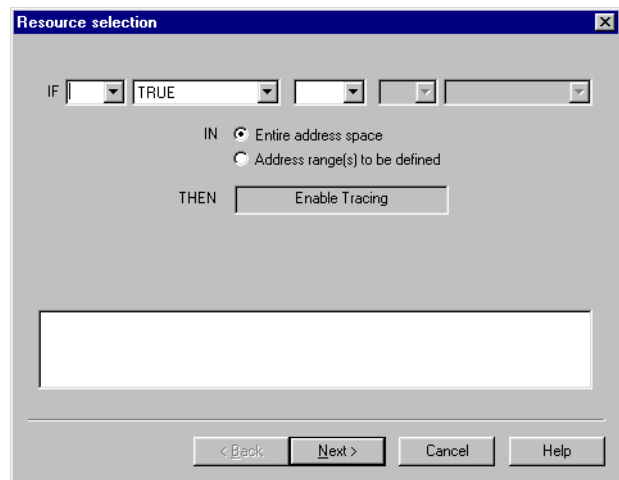

Figure 8-21 Resource selection for Enable Tracing
2. Double-click **Enable Tracing** from the Actions list to define a rule. The Enable Tracing Resource selection dialog box shown in Figure 8-21 is displayed.